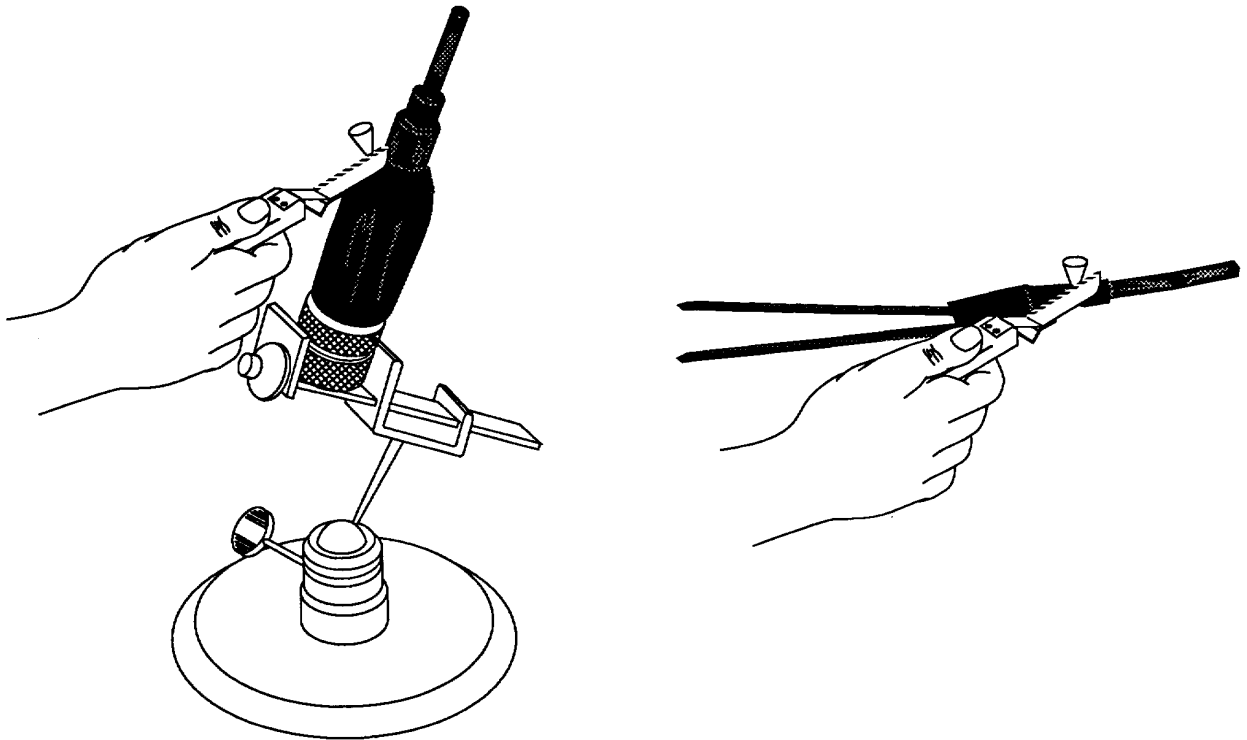

Figure 7. Cutting Riser
e. After compound is completely cure, cut riser flush with surface of component (Figure 7).